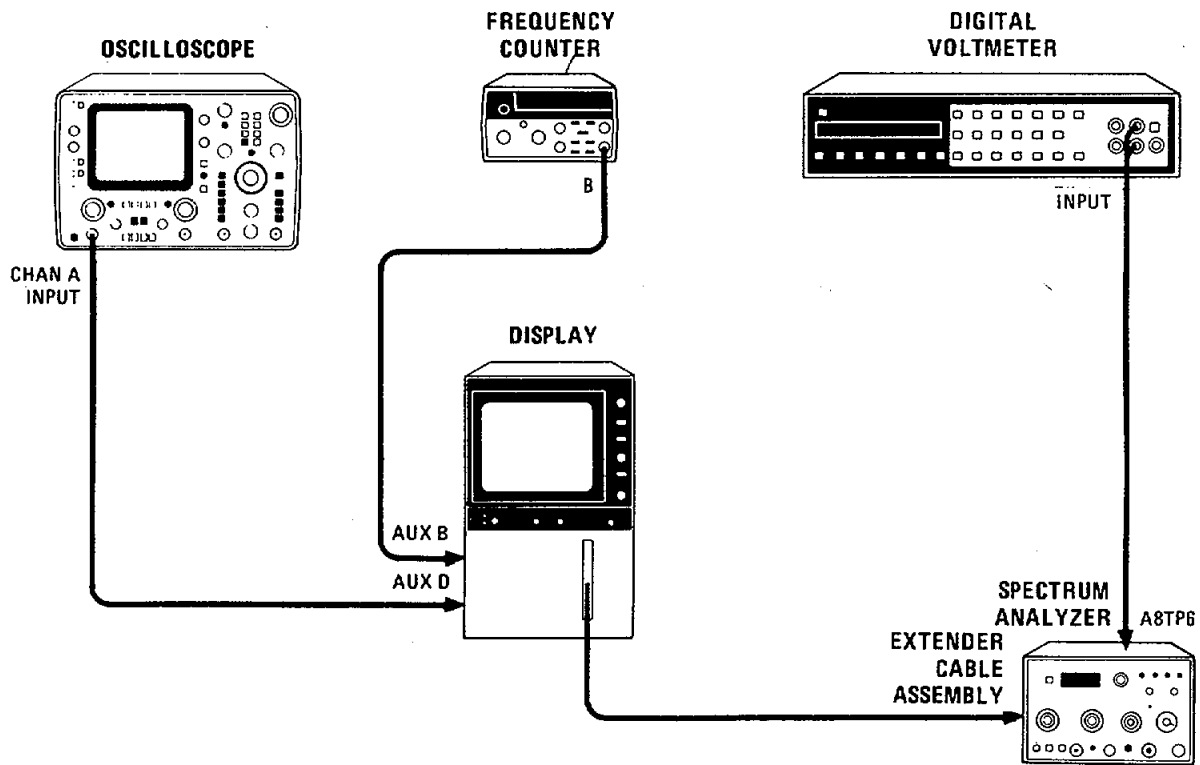

Figure 5-14. Sweep Time Per Division Adjustment Test Setup
2. Connect equipment as shown in Figure 5-14. Connect oscilloscope to AUX D, HORIZONTAL OUT- PUT, rear of display mainframe, or to A8TP5 of HP 8558B. Connect digital voltmeter to A8TP6 (located to the left and below A8TP4.)